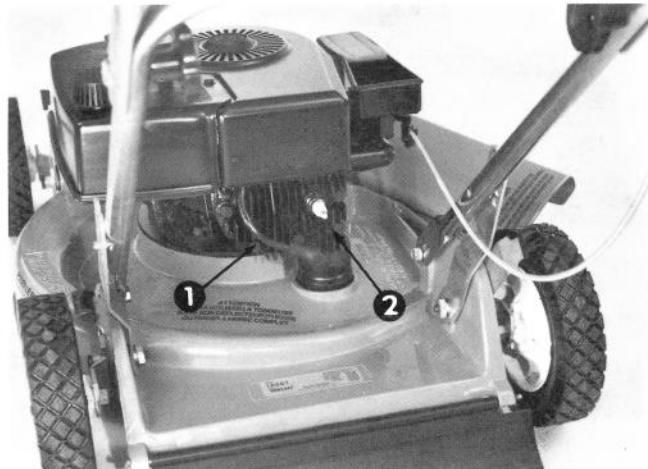

Figure 20
2. Clean area around spark plug so foreign matter does not fall into cylinder when plug is removed. Remove spark plug from cylinder head (Fig. 20).